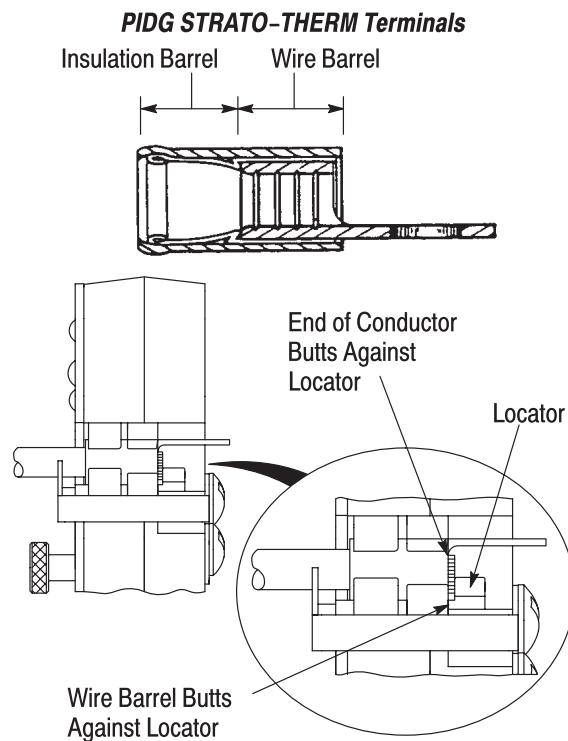

Figure 3
Refer to Figure 3 and the following steps for terminal crimping procedures.
3. Insert stripped wire into terminal until the end of the conductor butts against the locator as shown in Figure 3.
2. Place the terminal into the crimping jaws as shown in Figure 3.
3. Insert the UNSTRIPPED wire into ONLY the insulation barrel (refer to Figure 3) portion of the terminal.